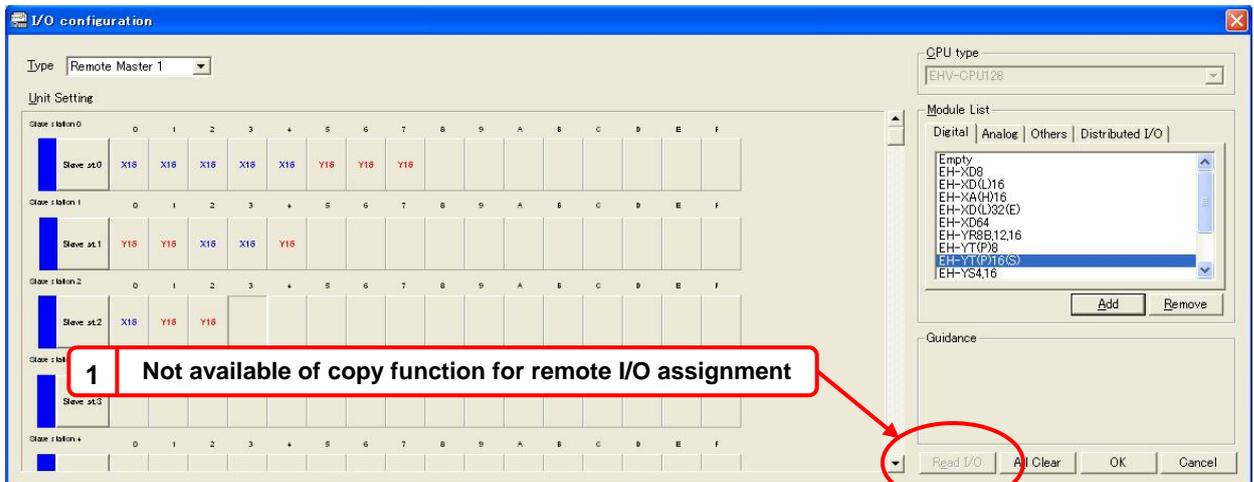

Figure 4.11 Example of I/O assignment for slave bases with Control editor (in system configuration example-1)
- 1) Master module (EH-TRMME) has remote I/O area of 16 channels (0 to F). Each channels corresponds to I/O slots (0 to 7) on remote slave bases according to remote I/O assignment as Figure 4.11.
- 11) Set I/O assignment with programming software to CPU module. Please set I/O assignment for all slots one by one as Figure 4.11 because compact remote system doesn't support copy function of I/O assignment from mounted modules.